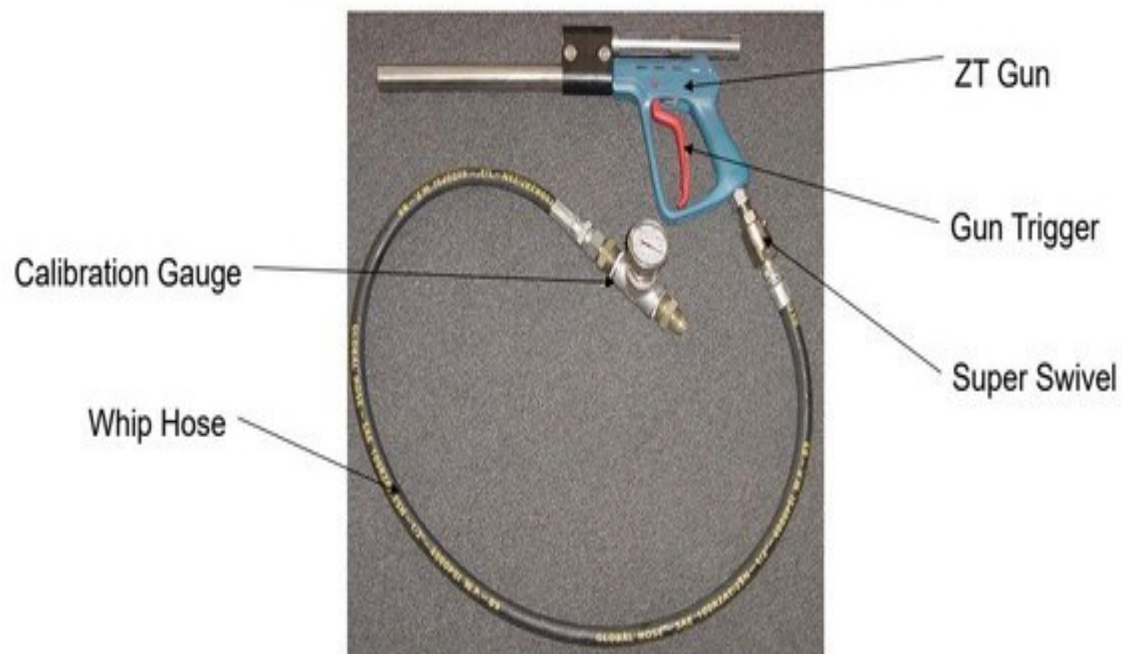

Figure 5.2 – Zero-Thrust Gun Pressure Calibration
The pressure at the nozzle of the zero-thrust gun must be maintained within certain limits to achieve cavitation and for best performance results. Using a calibration pressure gauge tool situated between the pressure hose and the CaviBlaster zero-thrust gun, (See **Figure 5.2**) the water pressure should be 2,800-PSI (190 BAR) with the gun submerged and the gun trigger in the open or “ON” position. For best results, repeat this calibration procedure if cleaning performance degrades, or every 3 months at a minimum.
A CALIBRATION GAUGE IS RECOMMENDED WITH EVERY UNIT. CONNECT BETWEEN THE MAIN PRESSURE HOSE AND THE WHIP HOSE OR ZERO-THRUST GUN. SEE FIGURE 5.2.
8. Hold the gun tight and observe the calibration gauge (See **Figure 5.2**).